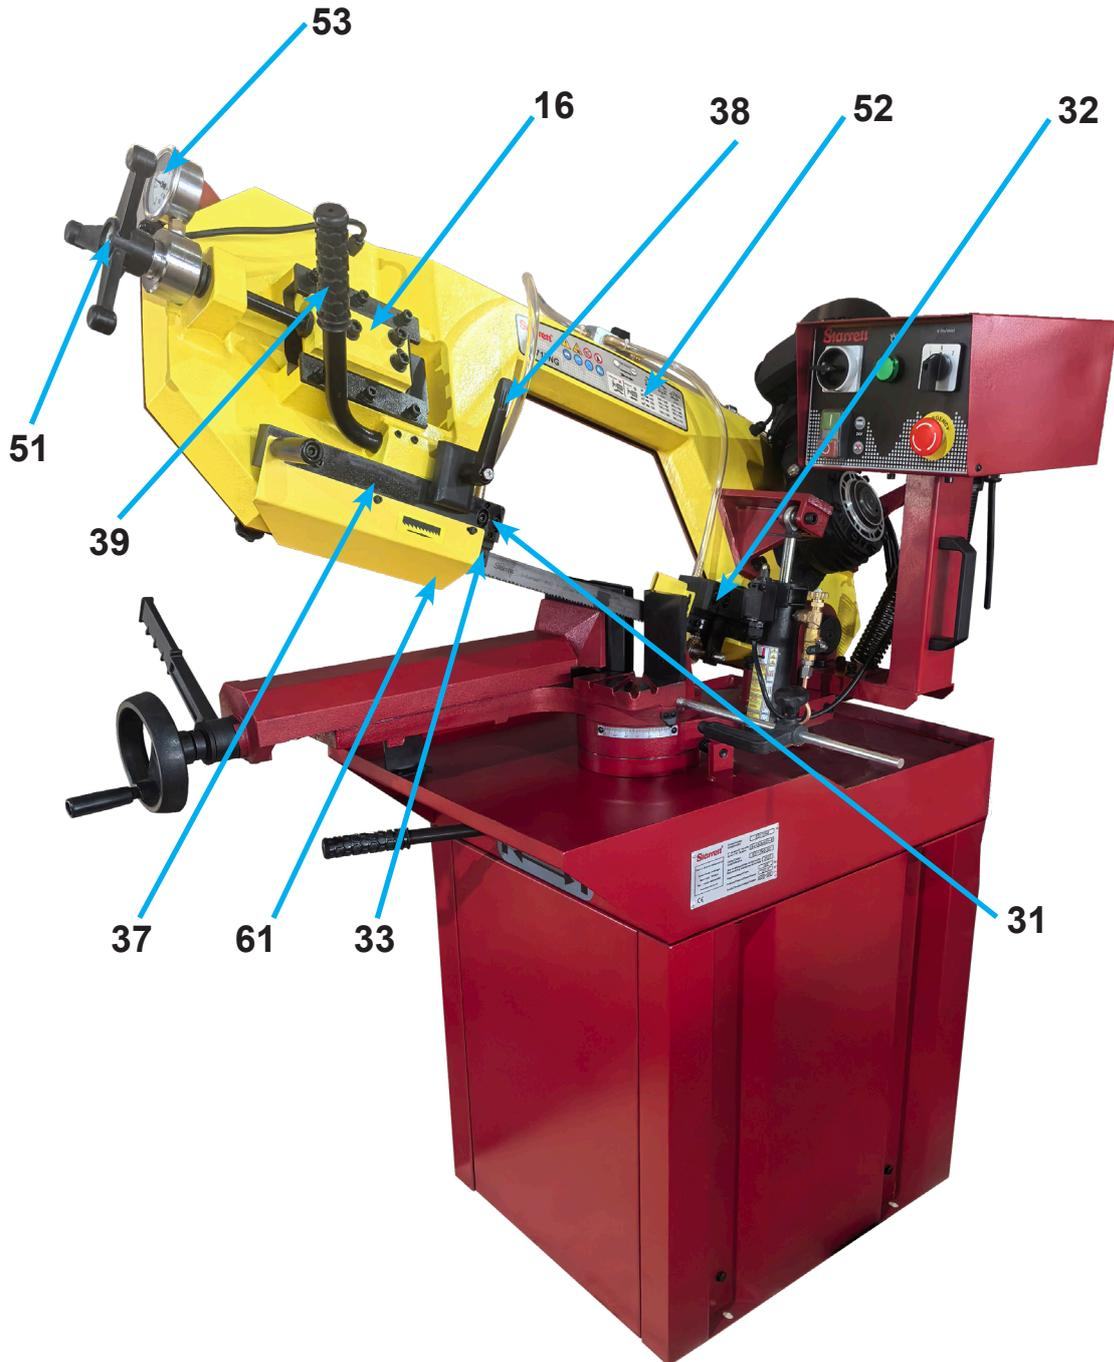

FIGURE 7.5 - MOBILE GUIDE SUPPORT AND TENSIONING SYSTEM
The first is the Power Circuit, sized to support the load of the electric motors: M1 (25) of the Band Saw Blade (10) and M2 of the Coolant Pump (24). Both are protected against possible short circuits or overloads by the Thermomagnetic Circuit Breaker QS2 (27) installed internally in the Electric Box (47) (figure 7.5). The Motors M1 (25) and M2 (24) are driven by the Contactor KM (26).